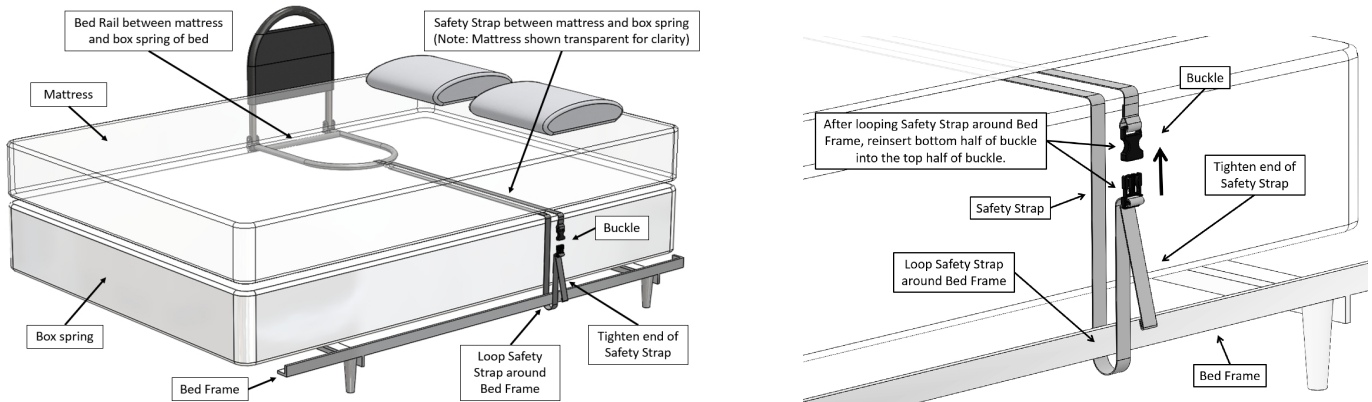

Figure 4
6. **Entrapment Warning:** Secure the SAFETY STRAP to the bed frame, as shown in Figure 4. Unbuckle strap and loop strap around bed frame and re-buckle. Tighten strap to secure Handle Assembly against the side of the mattress. Do NOT install product without securing the SAFETY STRAP to the bed frame as shown in Figure 4. If you have any questions, call Stander at (800) 506-9901 or (435) 755-0453.